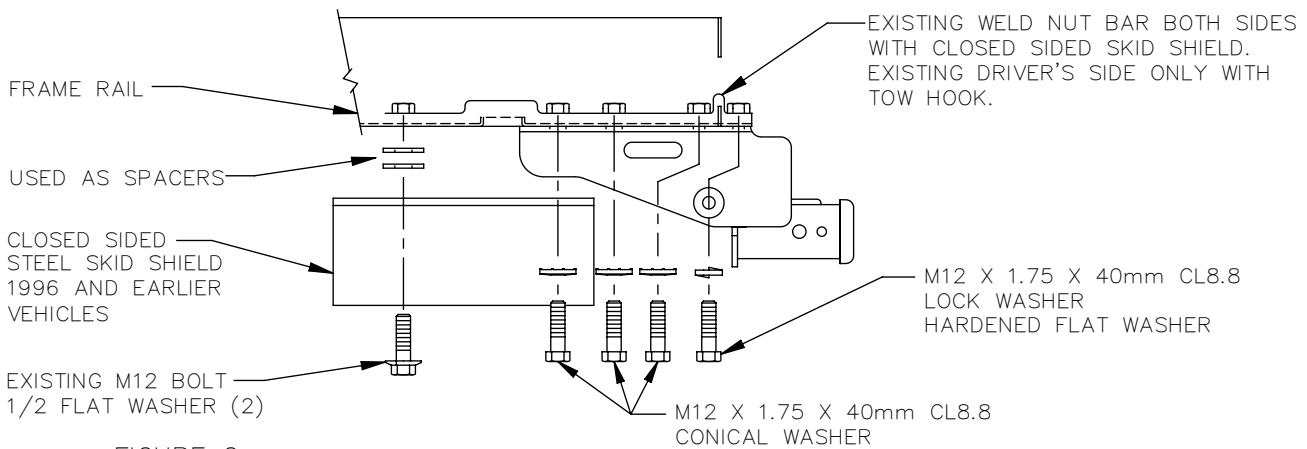

FIGURE 2
NOTE: FIVE (5) INSTALLATION OPTIONS ARE POSSIBLE DEPENDING ON VEHICLE CONFIGURATION. REFER TO SHEET 2 FOR FIGURES 2, 3, 4 AND 5.
2. **OPTION A – SEE FIGURE 2**
OPTION C – SEE FIGURES 2 & 3